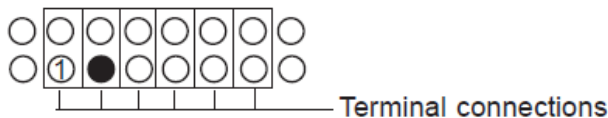

Figure 26: Terminal Connections
3. Locate the internal barrier block. The block includes six pairs of terminal connections. Refer to Figure 26.
4. Remove the bottom screw from the second pair of terminal connections from the left (the dark circle in the diagram in Figure 26).
6. Touch the red wire from the multimeter to the bottom screw on the first pair of terminal connections from the left (numbered in the diagram in Figure 26).